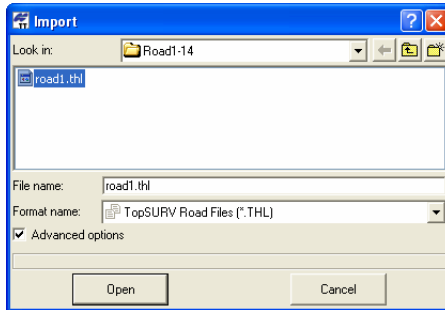

Figure 3-30. Import Road File
4. Click **Open** to import the file (Figure 3-30).